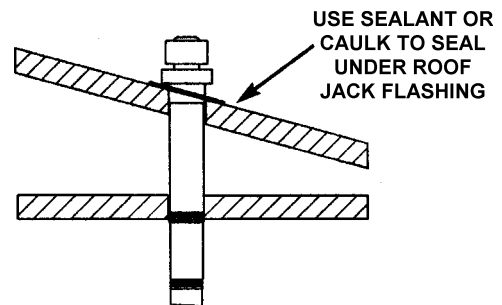

FIGURE 15.
5. Use sealant or caulk on the roof to seal under flashing of the roof jack assembly. Use roof nails or screws on wood construction or sheet metal screws on metal roofs (nails and screws not provided), see Figure 15.